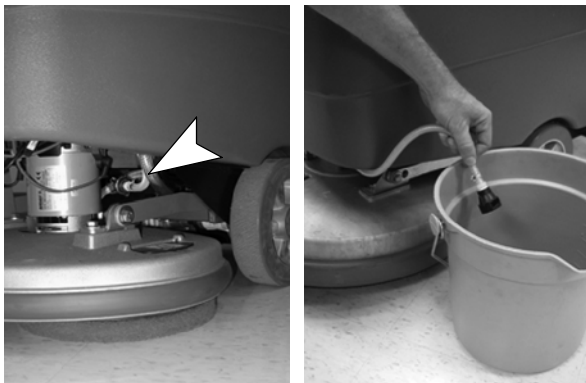

FIG. 74
3. Disconnect the black connector fitting at the scrub head and place the hose into a bucket (Figure 74). To access the connector fitting, you may have to remove the front cover from the machine.